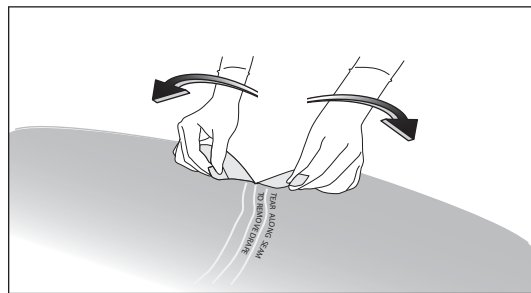

Figure 21
- Tear along seam to remove drape (refer to Figure 21).